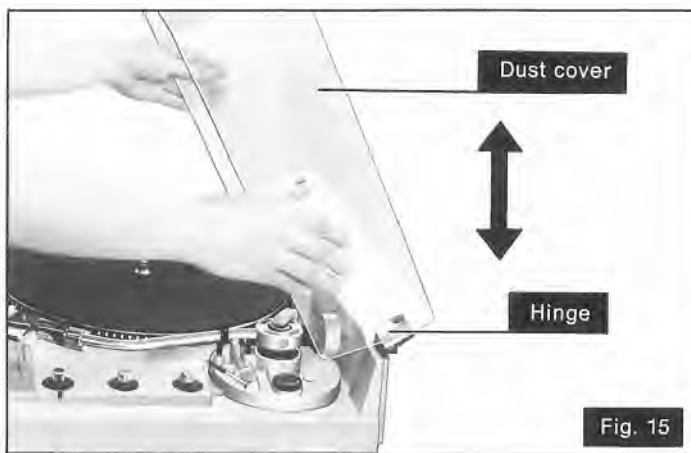

Fig. 15
⑨ Installation of the dust cover. (See Fig. 15).**Note:**